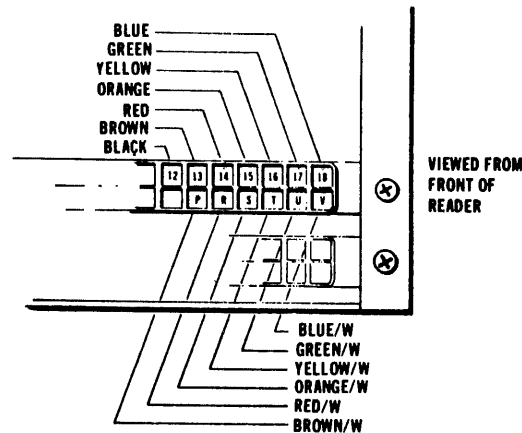

Figure 9-13. Read Head Wires Connection Diagram
- b. Remove cards from card file assembly, figure 9-13.
- f. Connect leads shown in figure 9-13 to connector J8 of card file.